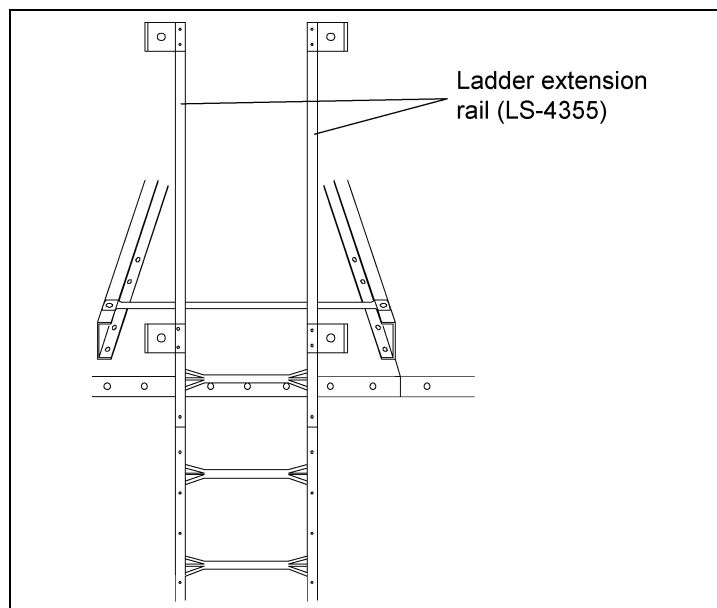

Figure 10F Front View
Start attaching ladder at the eave (top) of the Bulk Feed Tank. After the first ladder has been attached to the sidewall of tank, attach ladder extension rails to the ladder as shown *in Figure 10F*. Refer to *Page 61* for proper ladder placement in relation to the eave of the tank. Use hex head bolts on all safety cage connections. Attach hoop brackets and adjustable safety cage brace to the top of the extension rails. Be sure to attach the adjustable brace on the **left** side of the ladder. Now attach the opposite end of the adjustable brace to the roof ladder rail. After completing this, drill two (2) 5/16" holes through the adjustable brace and use 1/4" x 1-1/2" bolts and nuts to secure the two (2) braces together.